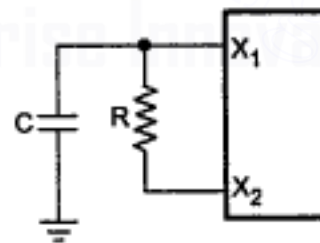

Fig. 2.7 RC circuit
**RC Tuned Circuit :** Fig. 2.7 shows the RC tuned circuit. The output frequency of this circuit is also not exactly stable. But this circuit has an advantage that its component cost is less.